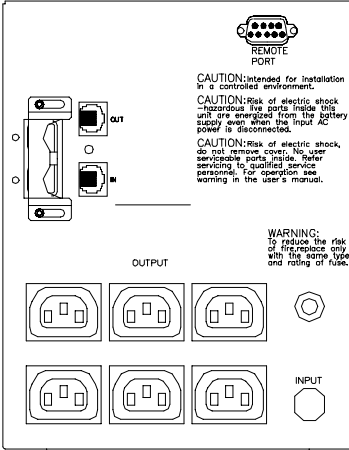

Figure 1.9
1.3.4 XL Models (Figures 1.9 to 1.15)